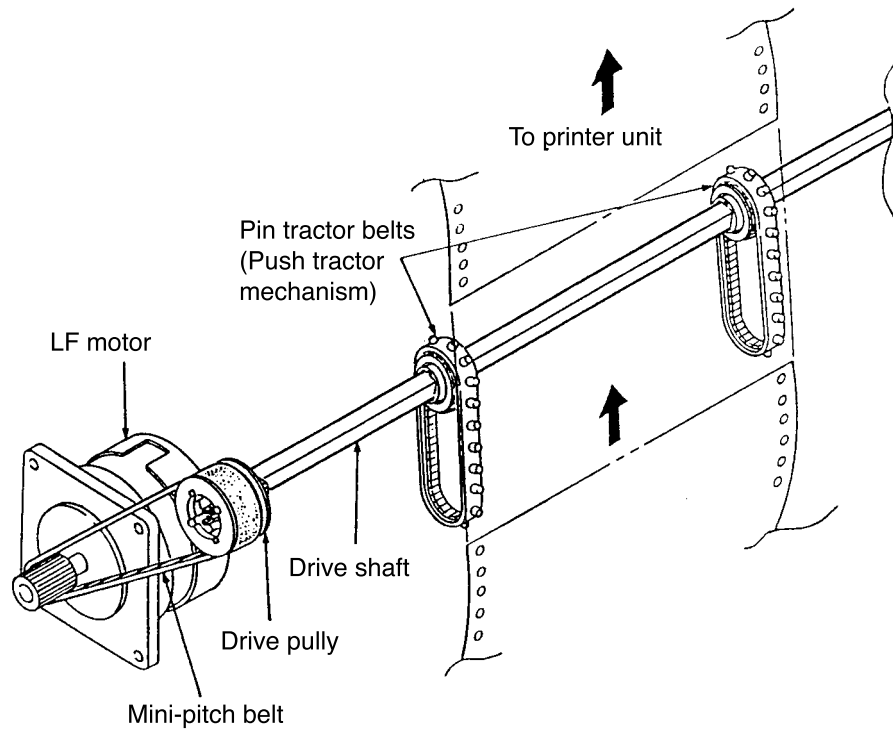

Figure 3.9 Bottom push tractor mechanism
(4) Bottom push tractor mechanism (option) (See Figure 3.9)